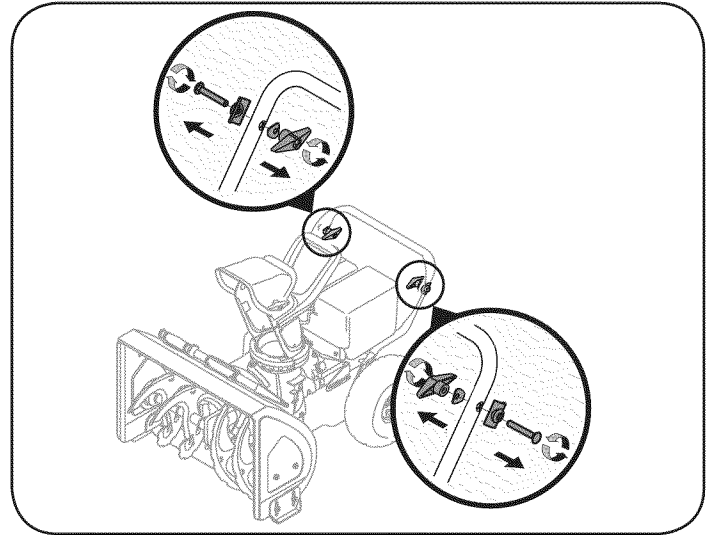

Figure 1
1. Loosen and remove the wing knob, saddle washer, handle tab and carriage screw on each side of the lower handle. See Fig. 1.